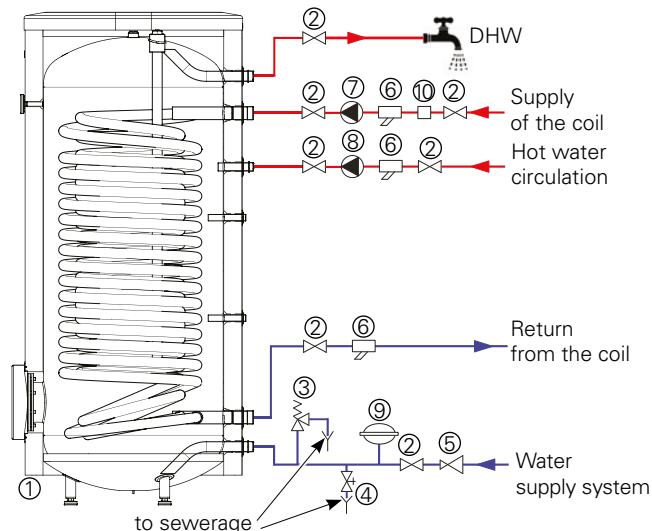

Fig. 7 Installation diagram of the BA-ST 9030/9040/9050- 1FEDC storage tank with one coil.
Connect the heating and water supply systems in accordance with the installation diagram (see Fig. 7.)
In order to minimize the flow of water from the safety valve associated with the thermal expansion of the liquid, it is advisable to install a suitable expansion vessel at the cold water connection (see Fig. 7 item 9.)
3. Cut-off the hot water supply and drain some water from the tank through the drain valve (see Fig. 7 item 4).
4. Remove the housing cover together with thermal insulation (1).
5. Remove the anode protective conductor (2).
6. Remove the worn magnesium anode (3).